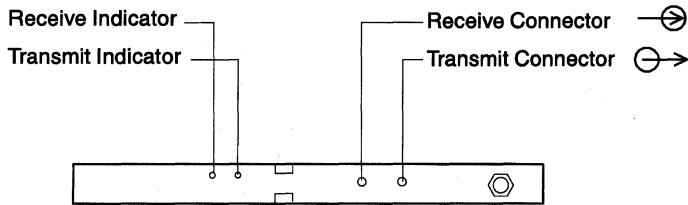

Figure 2-31. Controller Fiber Optic Transmit/Receive Identification
**Step 6** See Figure 2-31 on page 2-40 for indicator identifications. At the controller, locate the yellow lights on the Fiber Optic Terminal Adapter.